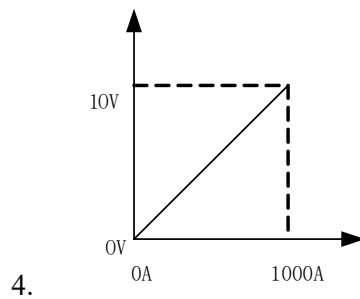

Figure 4-20 Real time current feedback corresponding relationship
1. Real time current feedback corresponding relationship, as shown in Figure 4-20;